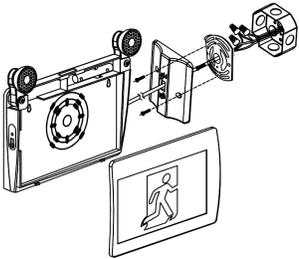

Fig. 3
- a) Pull wires through junction box mounting plate then connect junction box mounting plate to the junction box with screws (Fig. 3).